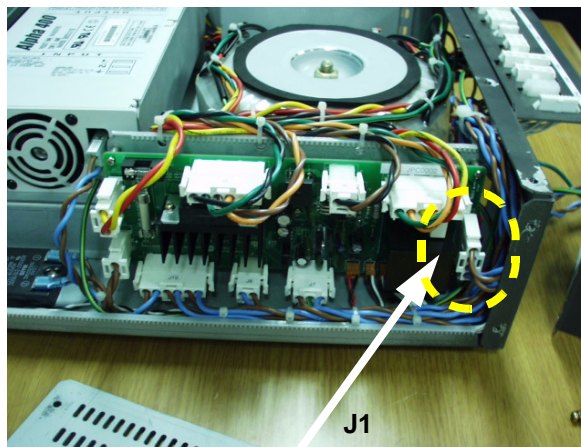

Figure 8-194 Disconnect 1 connector
- 3.) Disconnect one (1) connector (J1) from the JPC Assy. Refer to Figure 8-194.